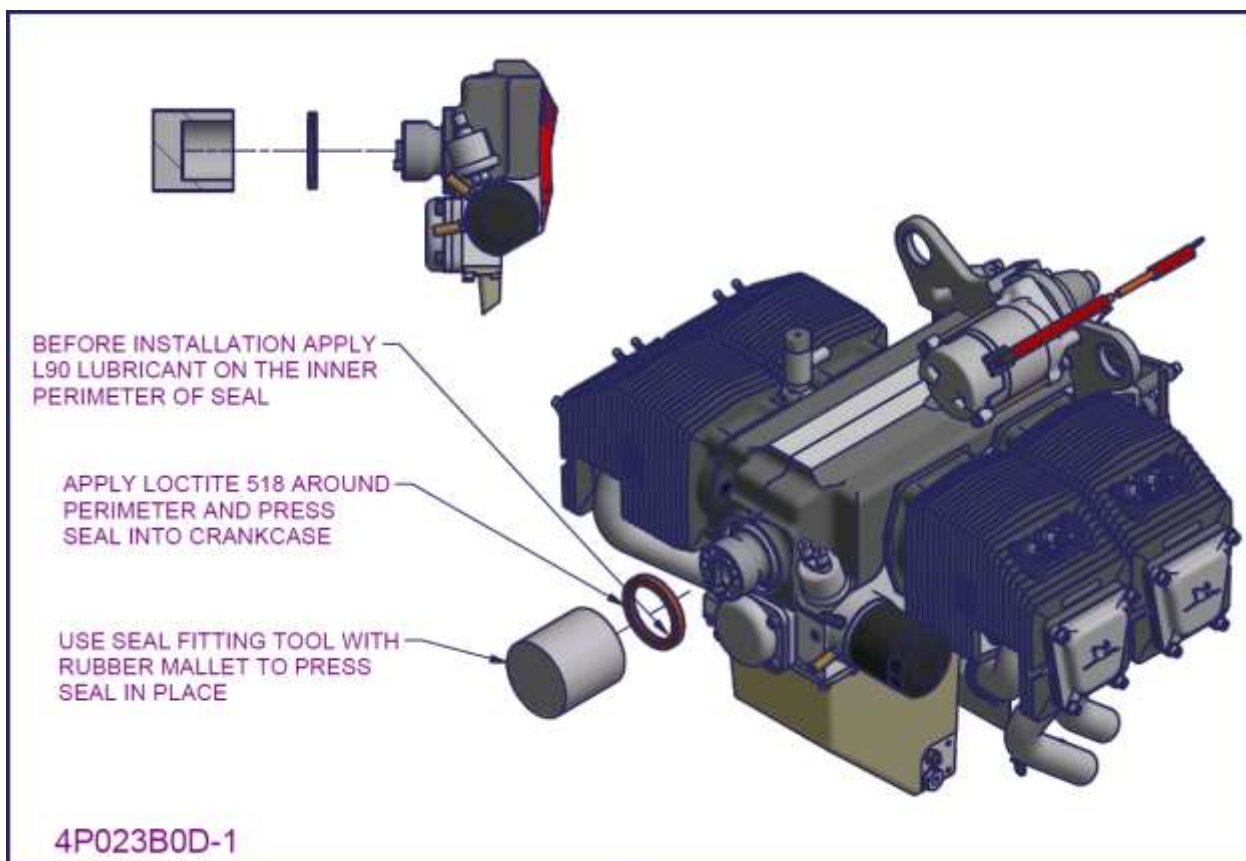

Figure 201 – 2200/3300 Front seal and propeller flange installation 2
- The seal is pressed into place using a special front seal fitting tool (as shown in Figure 201). By striking the tool with a rubber mallet the seal is pressed into the crankcase housing